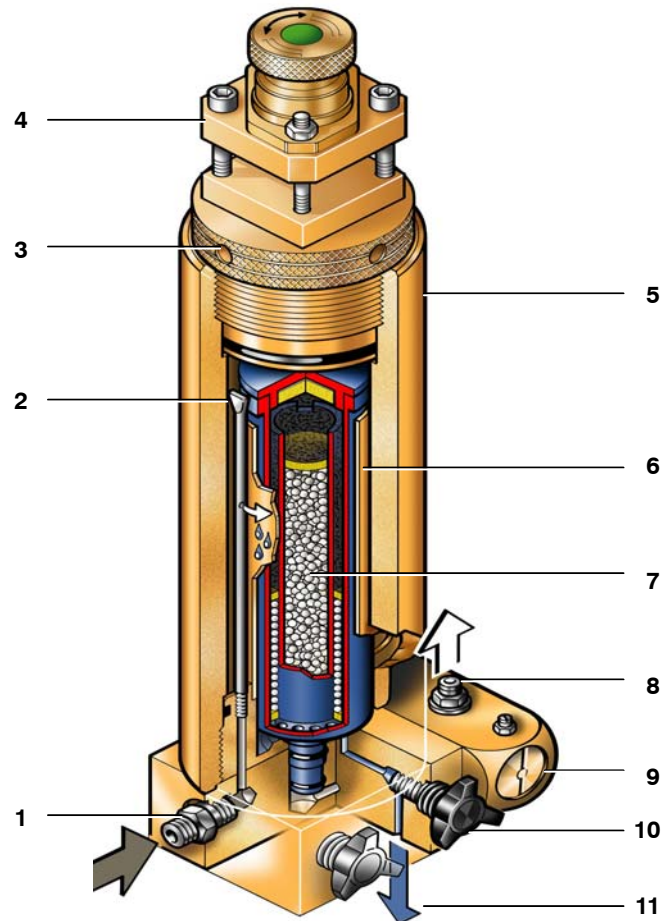

Fig. 32 Filter system P21
The air leaving the final stage is cooled in the after-cooler to approx. 10 - 15 °C (18 - 27 °F) above ambient temperature and then enters filter system **P21** with **TRIPLEX** longlife cartridge (Fig. 32).
- Remove filter head (3, Fig. 32).